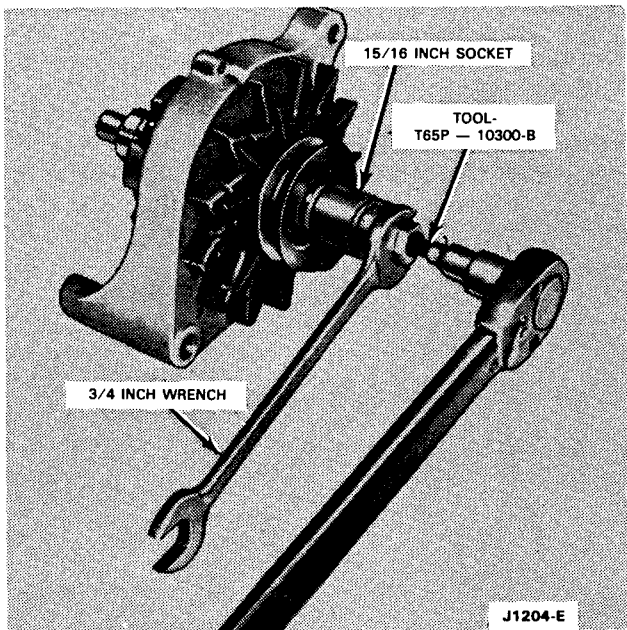

FIG. 18 Pulley Removal
9. Remove the drive pulley nut with the tool shown in Fig. 18; then, pull the lock washer, pulley, fan, fan spacer, rotor and rotor stop from the rotor shaft.
5. Position the front housing, fan, spacer, fan, pulley and lock washer on the drive shaft and install the retaining nut. Tighten the retaining nut with the tool shown in Fig. 18 to the specified torque.